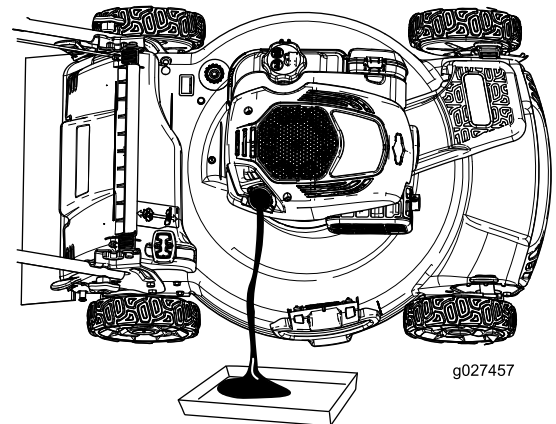

Figure 32
5. Tip the machine onto its side with the air filter up to drain the used oil out through the oil-fill tube (Figure 32).